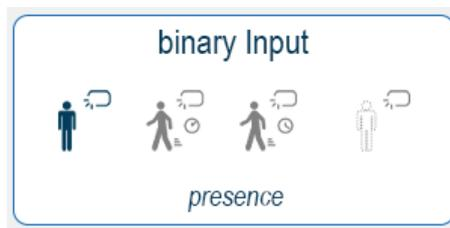

Figure 4.1 State 1 presence.
- **State 1:** Presence (See Figure 4.1)